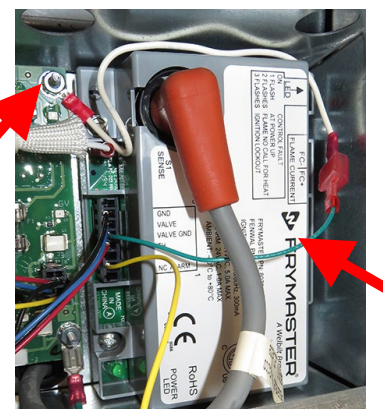

Figure 18
21. Attach the white wire from step 19 to the to the interface lug in the right top corner of the interface board (see Figure 18). Route the wire around the module as shown. Ensure the nut is securely tightened.